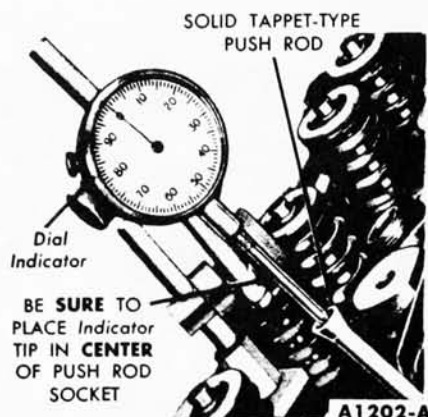

FIG. 21—Camshaft Lobe Lift
2. Make sure the push rod is in the lifter push rod cup. Install a dial indicator in such a manner as to have the actuating point of the indicator in the push rod socket and in the same plane as the push rod movement (Fig. 21).